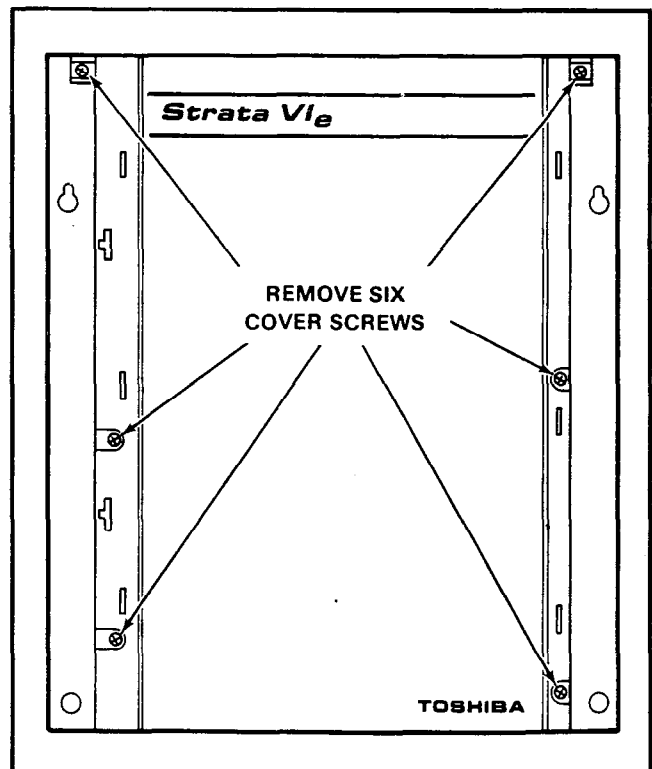

FIGURE 6-HKSU COVER REMOVAL
04.42 If any optional PCBs (SSTU, SEPU, SMOU or VCOU) are required, refer to Figure 6 and remove the HKSU cover as follows:
- 2) Remove three screws from each side of the HKSU per Figure 6.